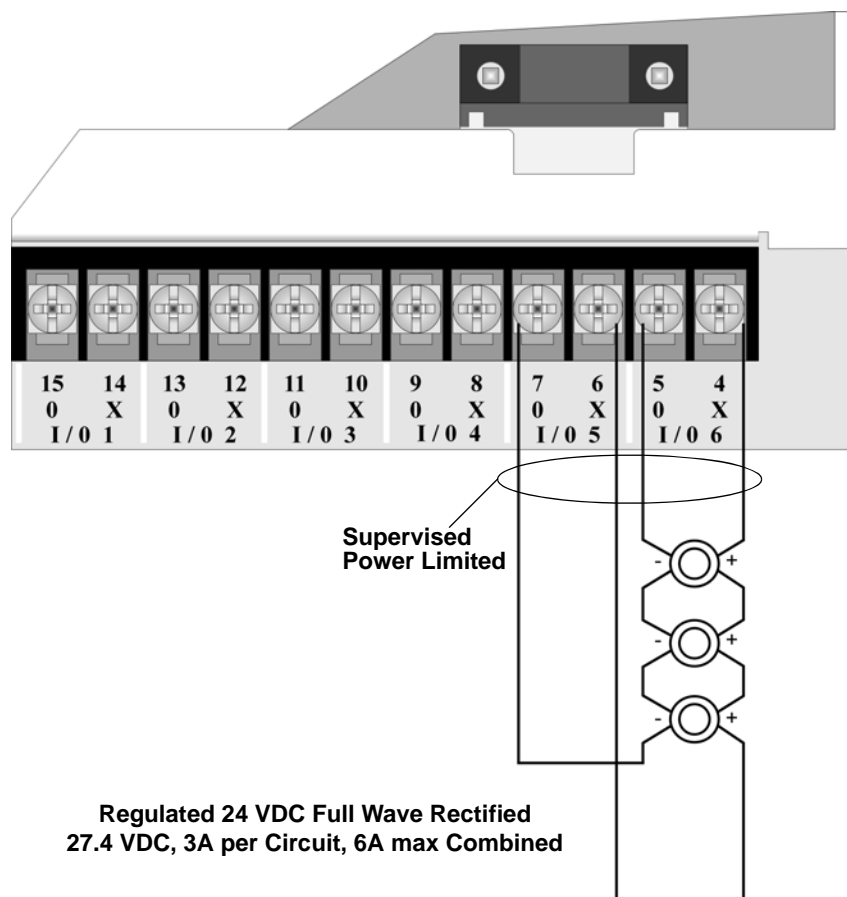

Figure 4-31 Class A Notification Appliance Circuit Configuration
1. Wire the Class A notification appliances as shown in Figure 4-31.
Note: In programming any point that uses multiple Flexput circuits, the lowest Flexput circuit number is used to refer to the circuit pair. For example, Figure 4-31 uses both Flexput circuit 5 and 6, so in programming it would be referred to as point 5.